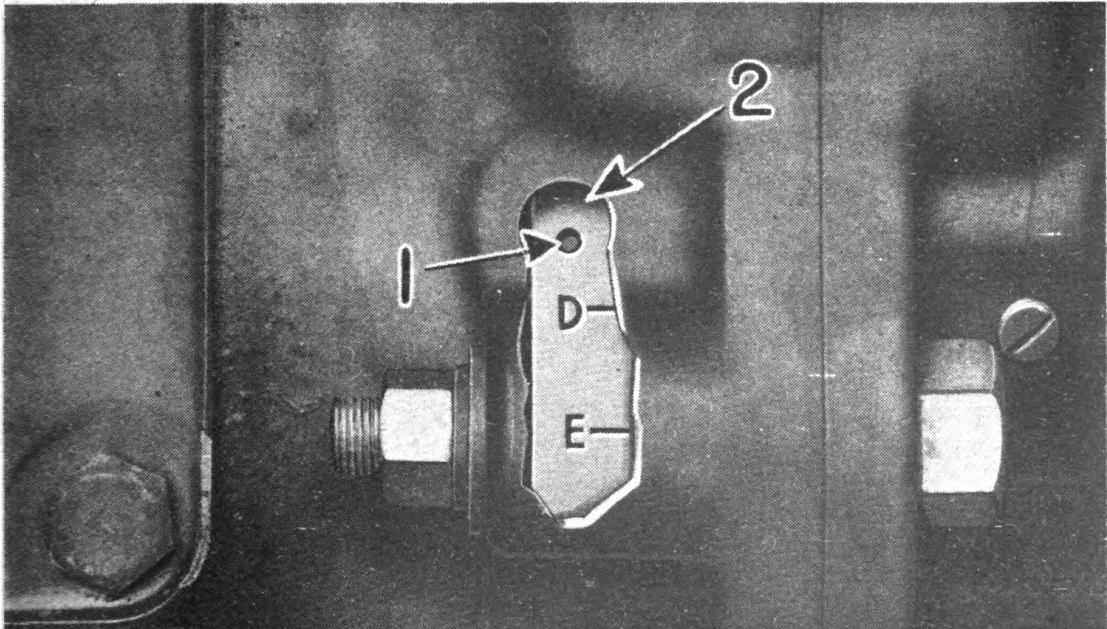

Fig. 34. Inspection Hole and Timing Marks on Flywheel
In checking the timing, turn the engine over slowly with the hand crank until the impulse coupling releases. At this point the $\frac{3}{16}$ inch hole in the flywheel rim Fig. 34 should be visible in the center of the inspection hole in the right hand
3. Remove the plug from the timing inspection hole on the right side of the clutch housing. Fig. 34.
6. Crank the engine very slowly. Watch through the timing inspection hole Fig. 34 and stop turning immediately when a $\frac{3}{16}$ inch hole in the flywheel becomes visible and is seen in the center of the inspection hole. This is the proper position for timing the magneto.